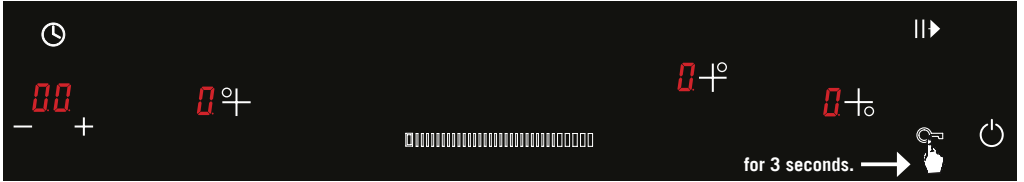

Figure 13
3. To deactivate the child lock function, just press and hold the lock key (🔑) for 3 seconds. (See Fig. 13) The dot (●) beside the lock symbol is turned off after this period and the child lock is deactivated.